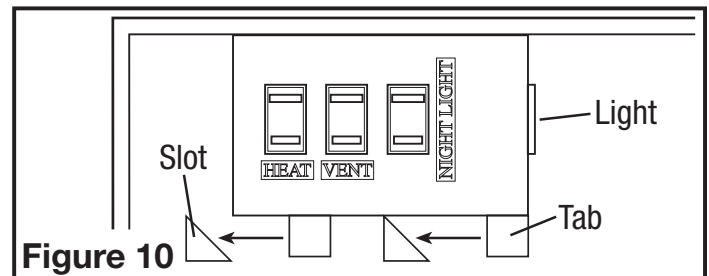

Figure 10
4. Reinstall the wire compartment cover by sliding the tabs at the bottom of the cover into the slots in the housing. Make sure all wires are tucked inside of the compartment and are not being pinched or showing through. Reinstall the two screws removed in **Step 3** of **SECTION 1 Preparing the Unit (Figure 10)**.